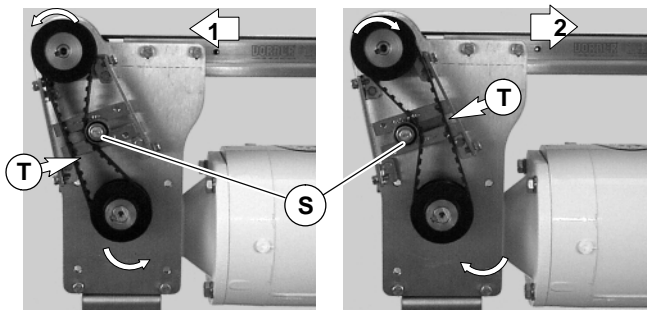

Figure 22
- Depending on direction of conveyor belt travel (1 or 2 of Figure 22), position belt tensioner (S) as shown. Tension belt to obtain 1/8" (3 mm) deflection for 1.0 lb (456 grams) of force at belt mid-point (T). Tighten tensioner screw to 103 in-lb (12 Nm).